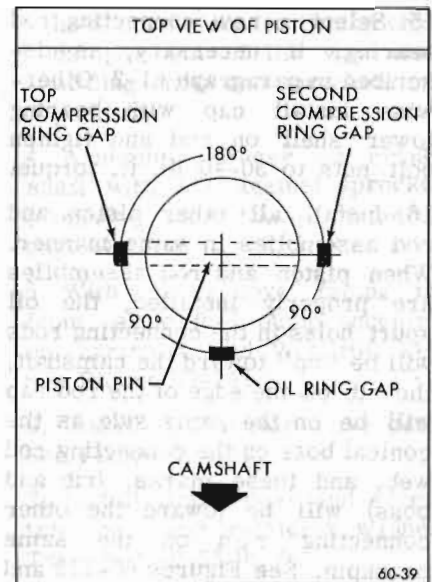

Figure 60-136—Ring Gap Positioning
8. Install piston rings as shown in Figure 60-136. Position expander ends over piston pin. Install oil ring rail spacer, and oil ring rails. Position gaps in rails "up" on same side of piston as oil spurt hole in connecting rod. Install compression rings in upper two grooves. Position ring gaps as shown in Figure 60-136.
13. Make sure the gap in the oil ring rails is "up" toward center of engine and the gaps of the compression rings are positioned as shown in Figure 60-136.